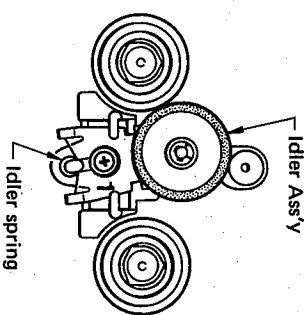

Fig. 6
- d. Remove screw ① and idler spring in fig. 6, and replace the idler ass'y.